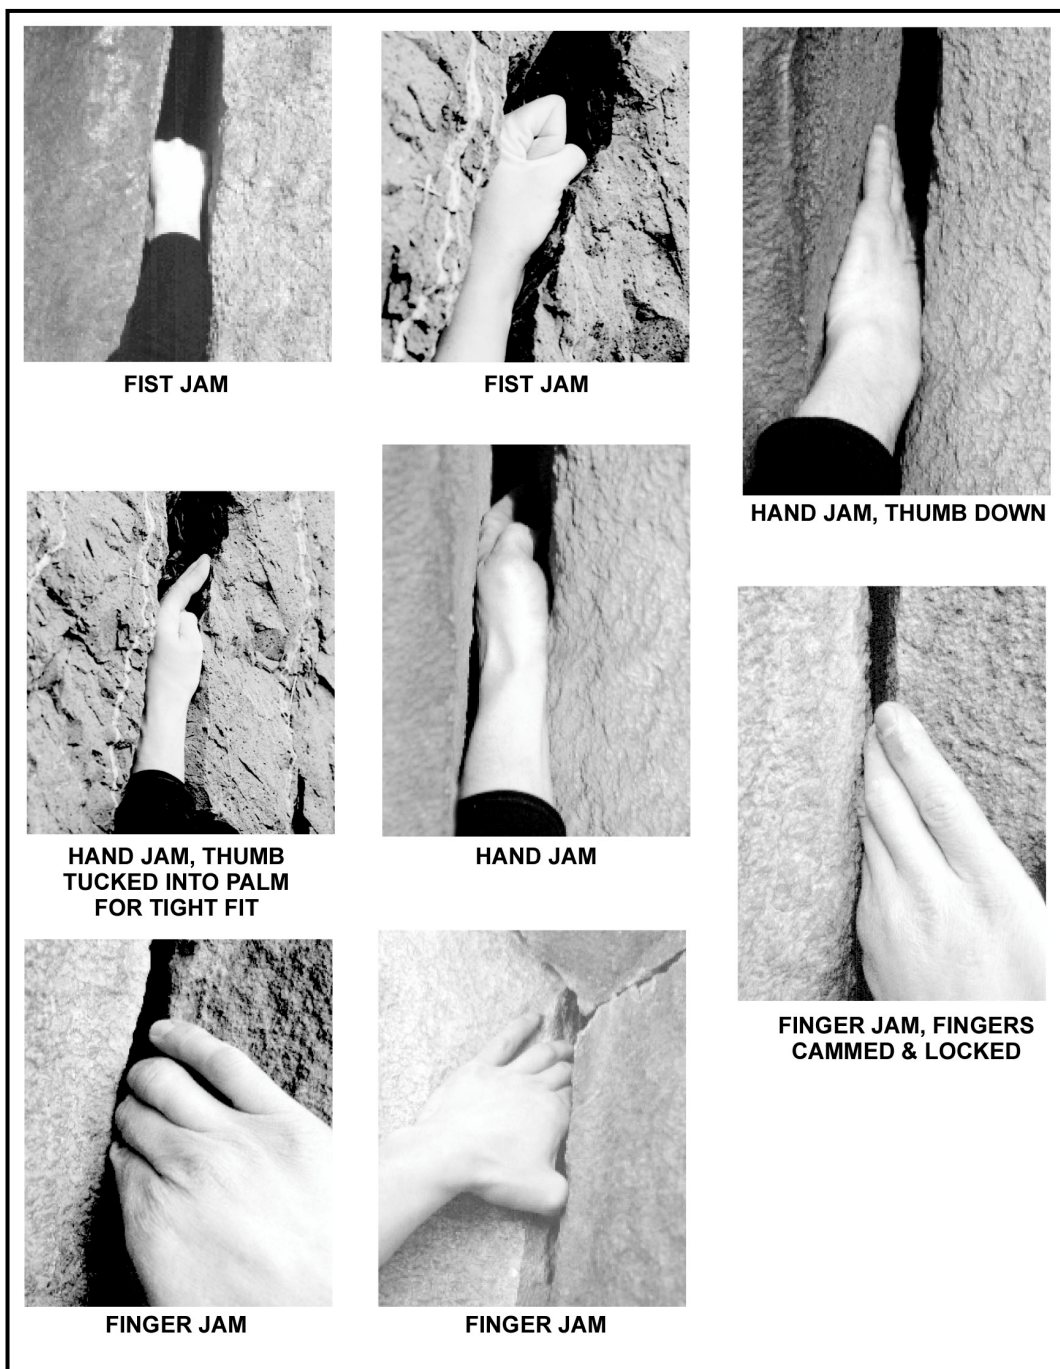

Figure 6-11. Examples of jam holds.
(4) ***Jam Holds.*** Like foot jams, the fingers and hands can be wedged or cammed into a crack so they resist a downward or outward pull. Jamming with the fingers and hands can be painful and may cause minor cuts and abrasions to tender skin. Cotton tape can be used to protect the fingertips, knuckles, and the back of the hand; however, prolonged jamming technique requiring hand taping should be avoided. Tape also adds friction to the hand in jammed position. (Figure 6-11, page 6-18, shows examples of jam holds.)